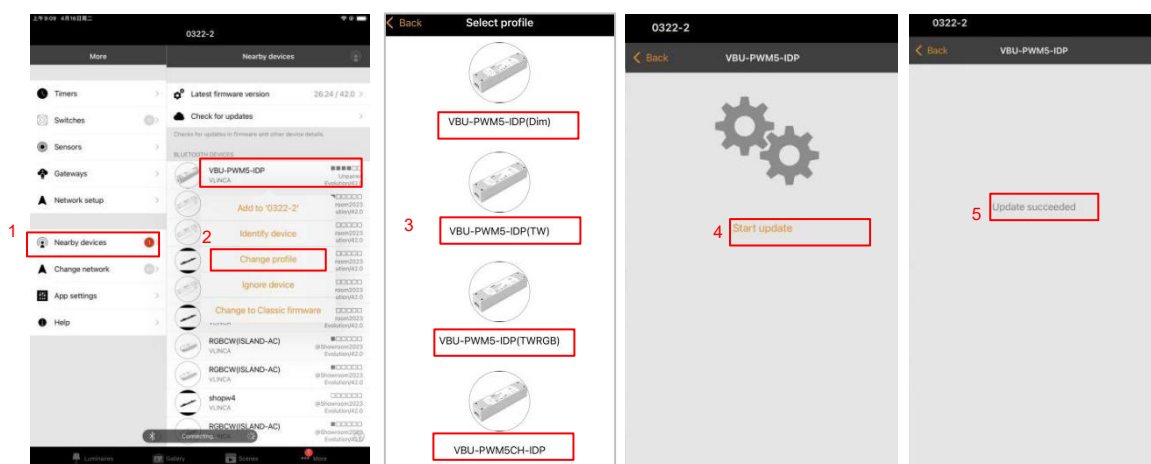

Figure 2
- _ Follow steps in Figure 2, change the fixture profile to the one suitable for your application.